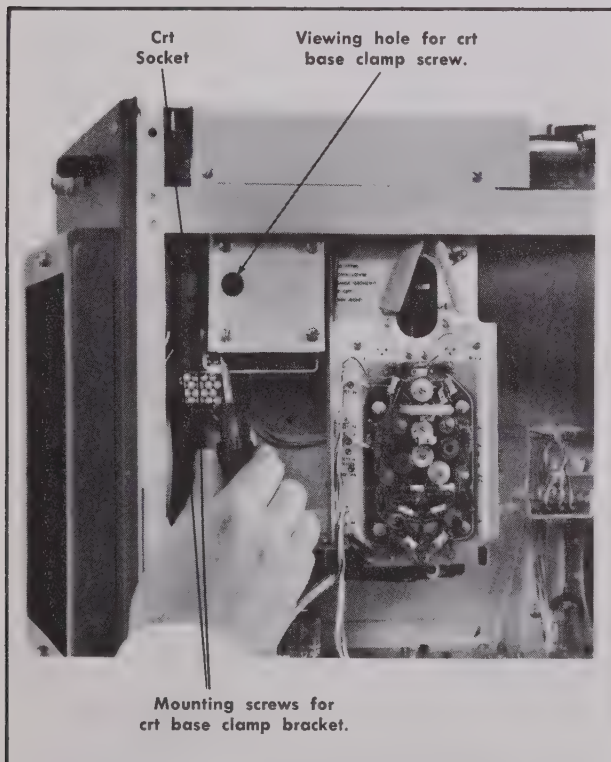

Fig. 4-3. Loosening the crt base clamp.
4. Using a Phillips screwdriver, loosen the crt base clamp (see Fig. 4-3).
If the crt face is not parallel with the front of the oscilloscope, use a $\frac{7}{64}$ " hexagonal wrench to loosen the two mounting screws that fasten the base clamp to its mounting bracket (see Fig. 4-3). The base clamp and crt base may now be moved radially to align the face of the crt parallel with the front of the oscilloscope.